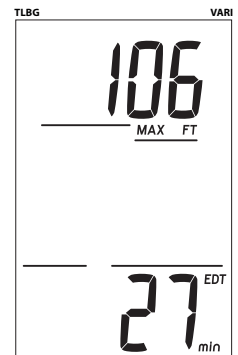

Fig. 53 - NO DECO ALT 1
**NO DECO ALT 1**, information includes (Fig. 53):